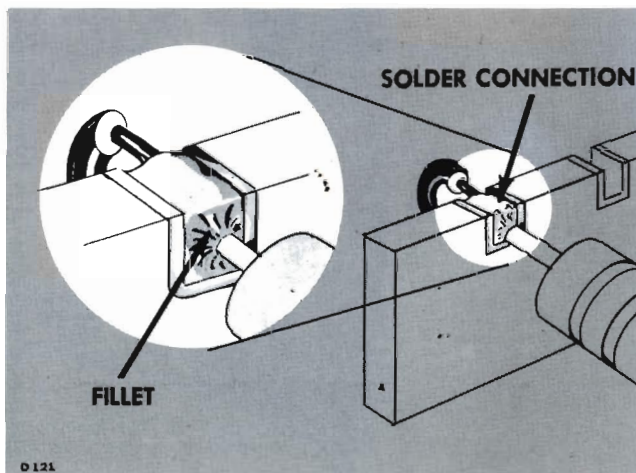

Fig. 5-4. A slight fillet of solder is formed around the wire when heat is applied correctly.
6. Do not attempt to fill the notch on the strip with solder; instead, apply only enough solder to cover the wires adequately, and to form a slight fillet on the wire as shown in Fig. 5-4.